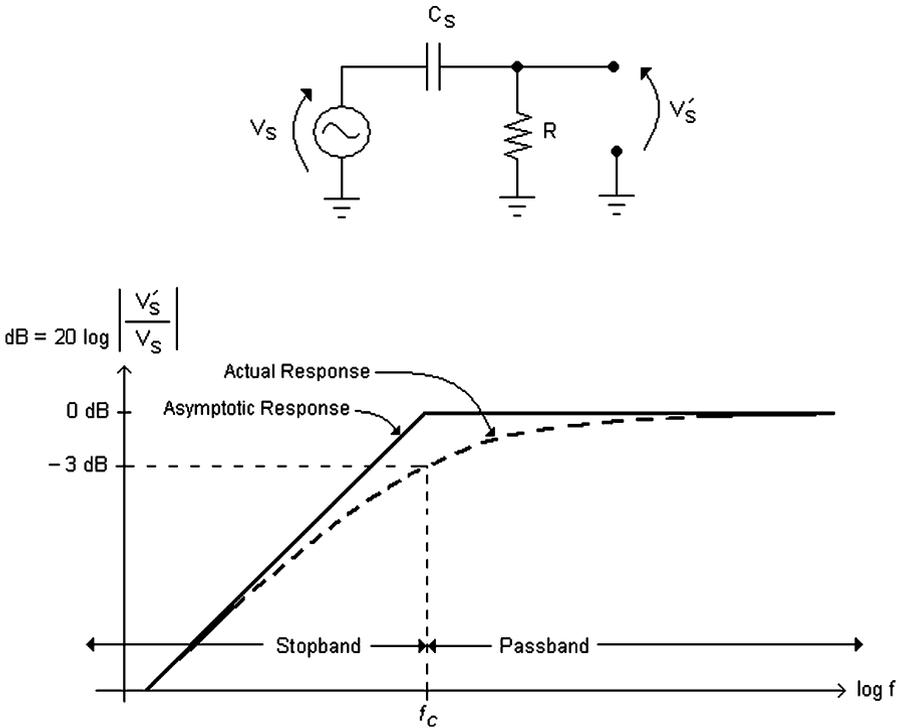

Fig. 2.11 Equivalent circuit for piezo pickup connected to external resistance, and frequency response curve
A useful approximate circuit model for a piezo pickup is simply a voltage source with a series capacitance. The capacitance will range from around 500 to 1,200 pF for typical piezo pickups. The peak output voltage generated by a single pickup will generally be around 50–100 mV under typical loading conditions. When the pickup is connected to a load such as the input of an amplifier, a first-order, high-pass (HP) filter is formed. This is shown in Fig. 2.11.